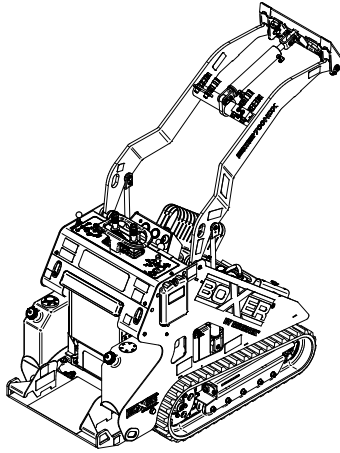

Figure 3-3 Fuel Level Check
3. The Boxer has two saddle fuel tanks (Item 1, **Figure 3-3**). Remove cap (Item 2, **Figure 3-3**) and visually inspect fuel level. Make sure that each tank has been filled on a daily basis.